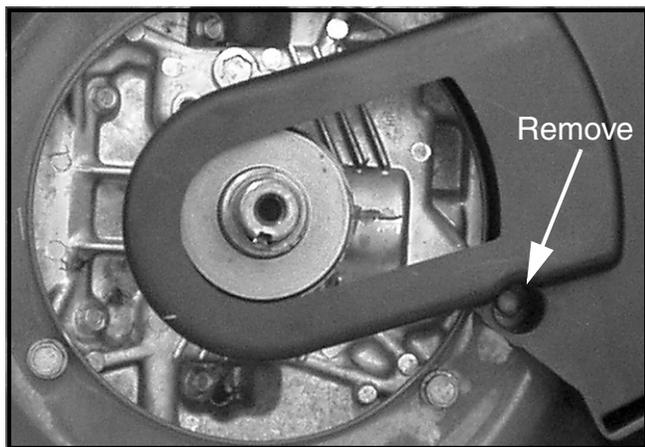

FIGURE 12
23. Using a 3/8" socket with extension (or a deep socket) and ratchet, remove the screw retaining the front portion of the main baffle. See Figure 12.
37. Reinstall the screw securing the front portion of the main baffle to the deck using the screw removed in Step 23. See Figure 12.